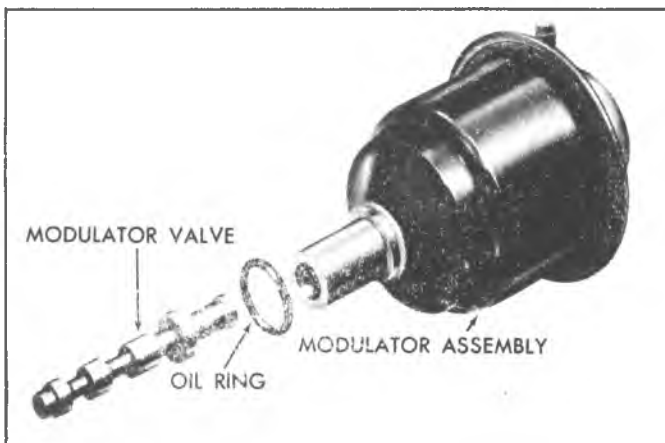

Fig. 7A-134C--Modulator Assembly and Valve
b. Apply non-hardening sealer to outside of new oil seal, and install oil seal into case extension using tool (J-24057) (see Fig. 7A-171C).